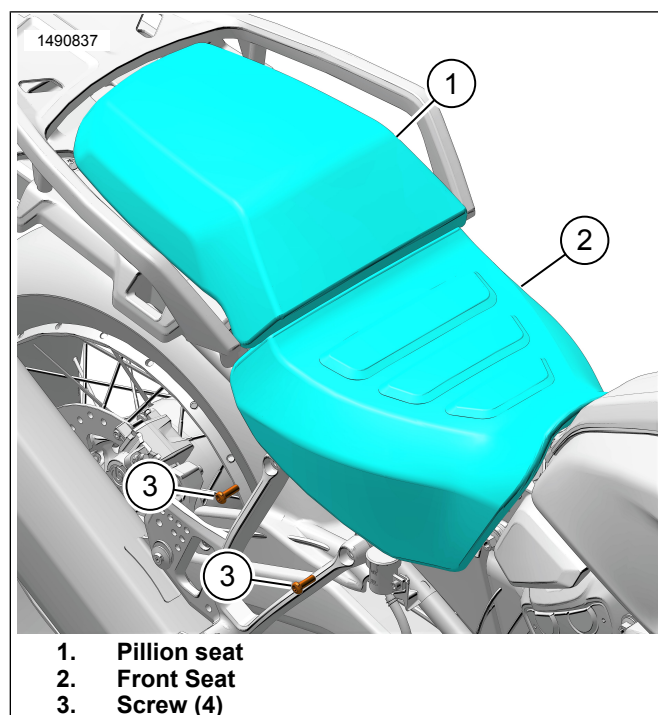

Figure 2. Seat
1. See Figure 2. Remove seat pillion (1) and seat (2). See service manual.
2. Remove screws (3). Support passenger footrests as needed.
1. See Figure 2. Install seat (2) and seat pillion (1). See service manual.